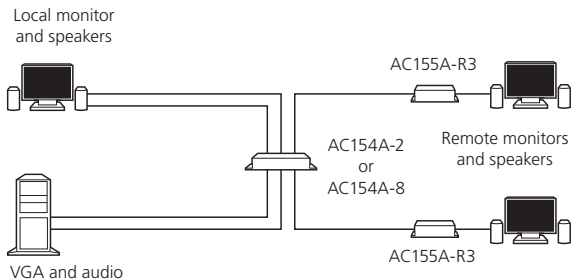

Figure 3-1. Typical installation.
4. Attach the supplied power supply to the box and plug it in the AC power outlet. See Figure 3-1.